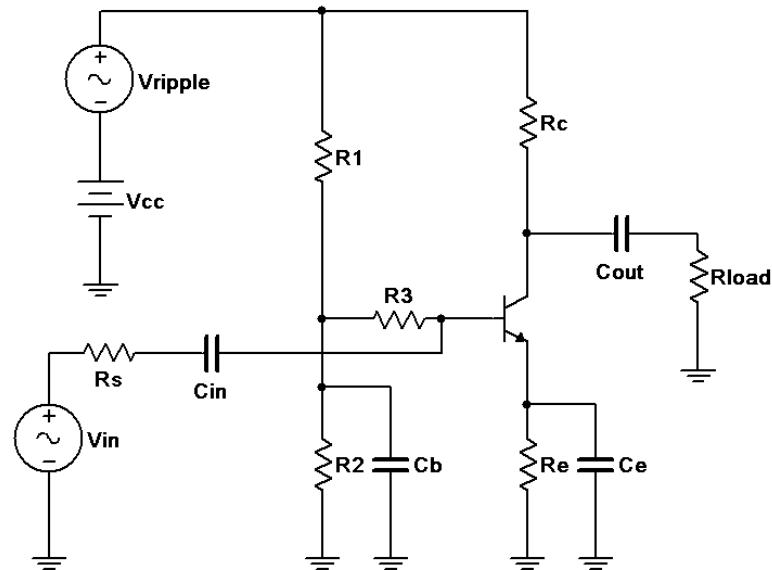

Figure 2
- One issue with amplifiers is noise and ripple on the power supply. This will be directly coupled to output of the circuit via the collector resistor. Worse, this noise or ripple may be coupled into the base and then amplified along with the desired input signal. This can be an issue with amplifiers that use a voltage divider bias. One way to reduce this effect is to decouple the voltage divider from the base. This modification is shown in the circuit of Figure 2. C_b effectively shorts R_2 , sending power supply noise and ripple to ground instead of into the base. By itself this would also short the desired input signal so an extra resistor, R_3 is added between the capacitor and the base. The input impedance of the circuit is approximately equal to R_3 in parallel with $\beta r'_e$. To show the effectiveness of this technique, build the circuit of Figure 2 in a simulator. Use values of $V_{in} = 20 \text{ mV}$ peak at 1 kHz, $V_{ripple} = 20 \text{ mV}$ peak at 120 Hz, $V_{cc} = 12 \text{ volts}$, $R_s = 1 \text{ k}\Omega$, $R_1 = 10 \text{ k}\Omega$, $R_2 = 3.3 \text{ k}\Omega$, $R_3 = 22 \text{ k}\Omega$, $R_e = 4.7 \text{ k}\Omega$, $R_c = 3.3 \text{ k}\Omega$, $R_{load} = 1 \text{ k}\Omega$, $C_{in} = C_{out} = 10 \mu\text{F}$, $C_b = 100 \mu\text{F}$ and $C_e = 470 \text{ pF}$. Run a Transient simulation and look at the load voltage. A very small low frequency variation should be noted. This is the 120 Hz ripple coupled in through the collector resistor. Alter the circuit by removing C_b and R_3 to produce the basic voltage divider circuit (or more simply, set C_b and R_3 to extremely small values such as pF and mΩ). Rerun the simulation. The load voltage should now show a much more obvious ripple contribution, thus showing how effective the power supply decoupling components can be.